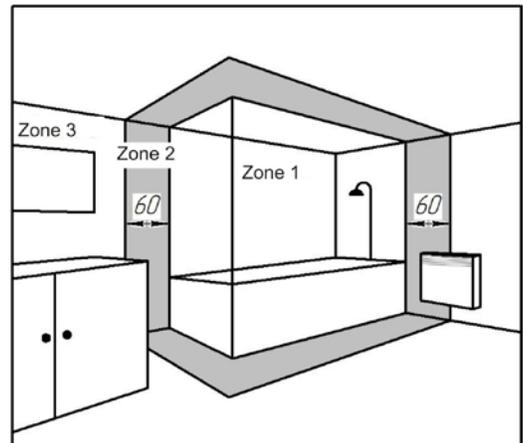

Figure 4
5.5 Convector with protected against splashed water IP24 can be installed in bathroom (see fig. 4).